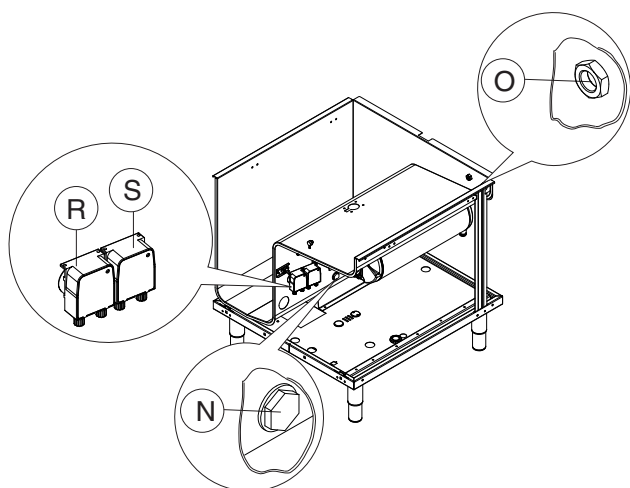

Figure 17 Automatic dispenser arrangement
1. Dishwasher with incorporated detergent dispenser pump (Figure 17).
2. Dishwashers with incorporated peristaltic rinse-aid dispenser pump (Figure 17).
Connections for automatic detergent dispenser (Figure 17)